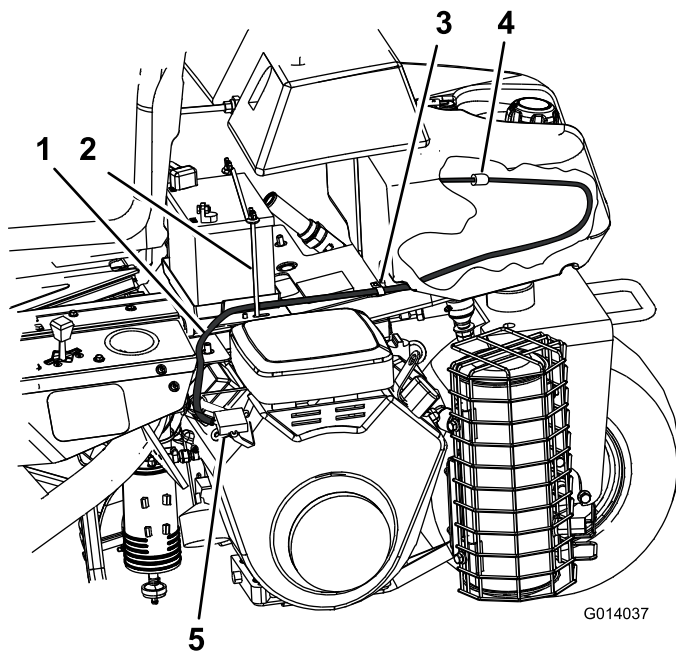

Figure 5
16. Remove the long fuel hose and clamp from the fuel pump (Figure 5).
18. Route the new long fuel hose from fuel pump, behind the battery hold down clamp, through the R-clamp and to the fuel filter (Figure 5).
20. Install the long fuel hose to the pump where the previous one was removed and is marked IN on the pump (Figure 5).